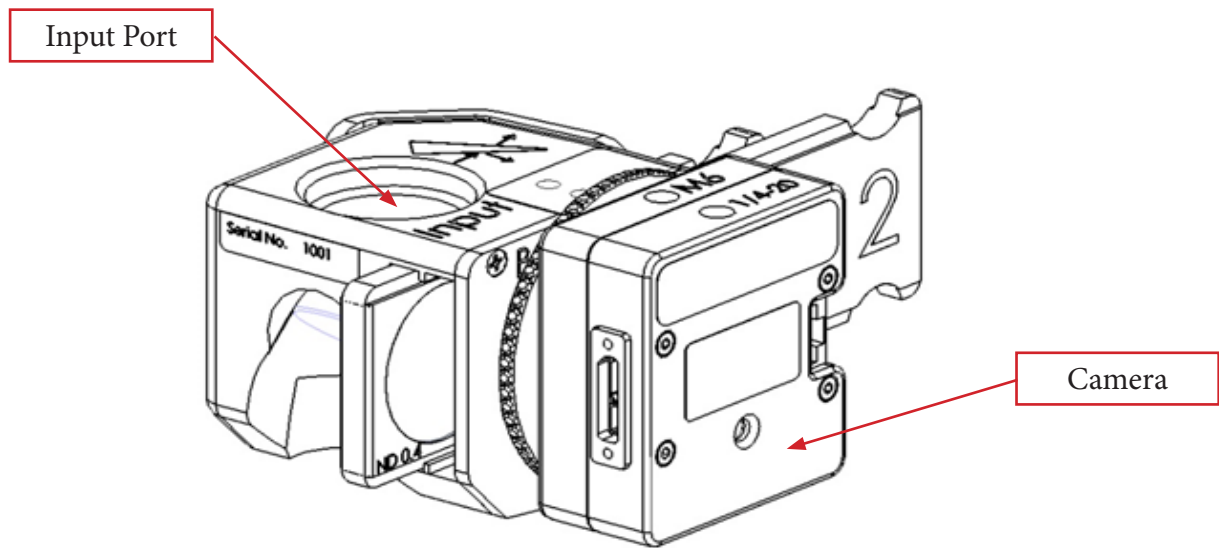

Figure 1
1. The LBP2-SAM-2 is attached to the camera as shown above in Figure 1. An adjustable locking ring is provided so that the beam sampler can be rotated in any orientation.